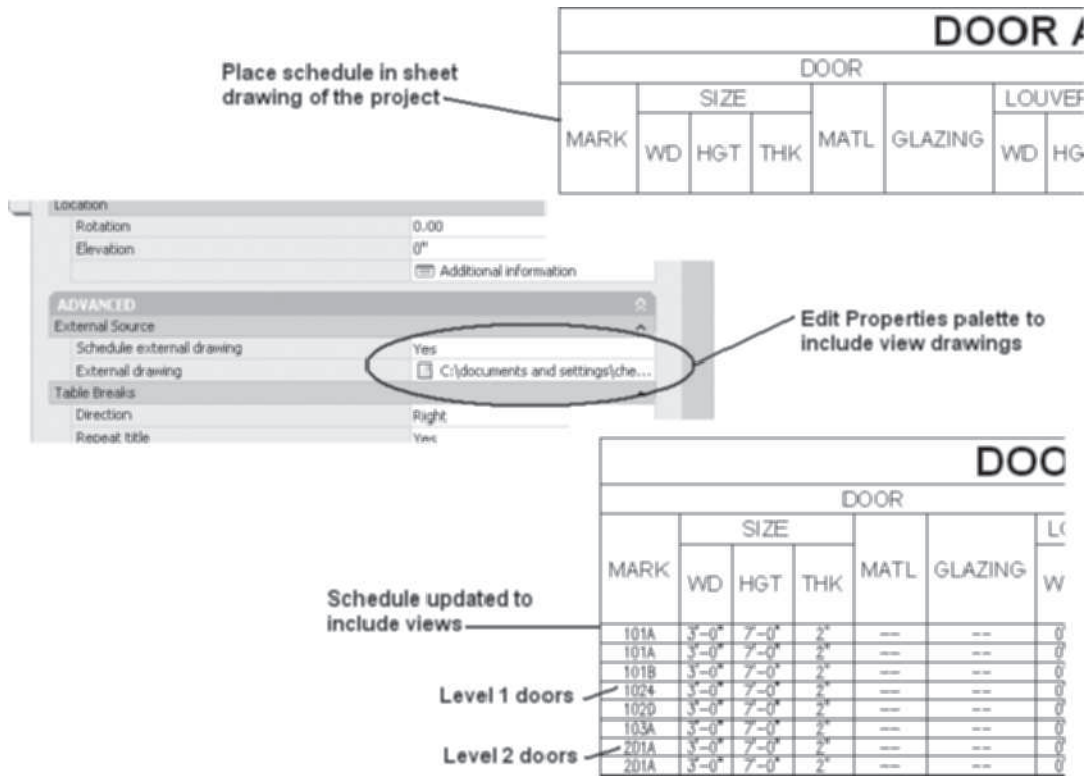

FIGURE 11.77 Creating a comprehensive project door schedule
The comprehensive schedule is developed in a Sheet drawing from the data located in View drawings. After placing a schedule in the Sheet drawing, toggle **ON Schedule external drawing** and specify the View drawings to include in the **External drawing** field of the **Schedule** properties palette as shown in Figure 11.77. When you update the schedule, the data from the View drawings specified will be displayed in the schedule.
6. Select the schedule, right-click, and edit the **External Source** section of the **Properties** palette as follows: toggle **Yes** for **Schedule external drawings** and edit **External drawing path** to include the View drawings of the project, as shown in Figure 11.77.